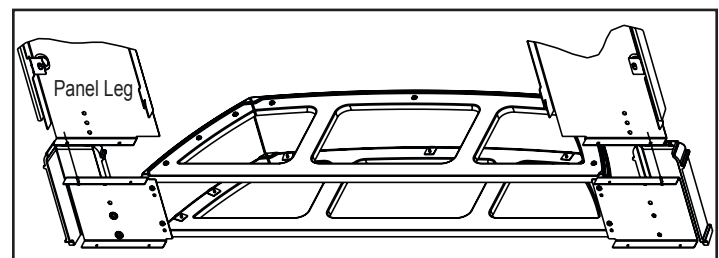

Figure 21.7
8. Place the assembled hearth support under the insert. **Figure 21.7.**